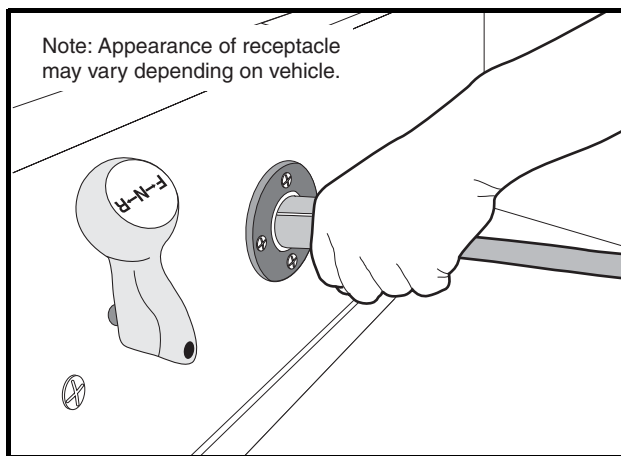
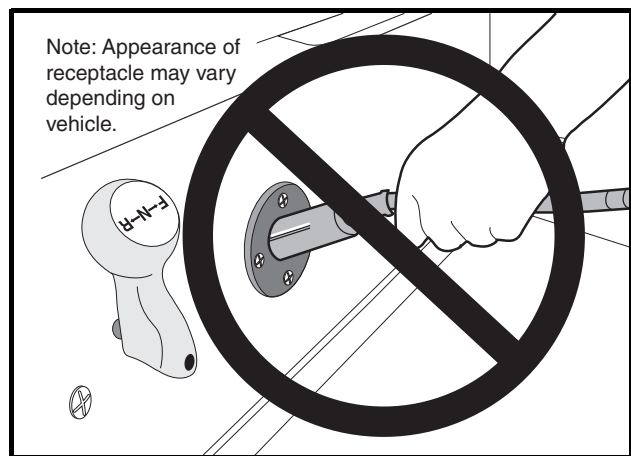

Figure 12 Charger Receptacle
Figure 13 Incorrect Charger Cord Removal
- **Do not rock or bend the plug. To connect the charger plug to the vehicle receptacle, grasp the plug handle and push the plug straight into the receptacle (Figure 12).**
- **Do not pull on the DC cord (Figure 13). Do not twist, rock or bend the plug. To disconnect the charger plug from the vehicle receptacle, grasp the plug by the handle and pull the plug straight out of the receptacle.**
2. Connect the charger DC plug to the vehicle charger receptacle located on the seat support panel (Figure 12). The charger will activate automatically within 2 to 15 seconds after the DC plug is connected. **See following WARNING.**
When inserting the DC plug into the vehicle receptacle, align the raised guide on the plug with the guide slot in the receptacle and slowly push the plug straight in (**Figure 12**). To disconnect the plug from the vehicle, firmly grasp the plug, not the cord (**Figure 13**), and slowly pull plug straight out. **See following WARNING and CAUTION.**
- Do not rock or bend the plug. To connect the charger plug to the vehicle receptacle, grasp the plug handle and push the plug straight into the receptacle (**Figure 12**).